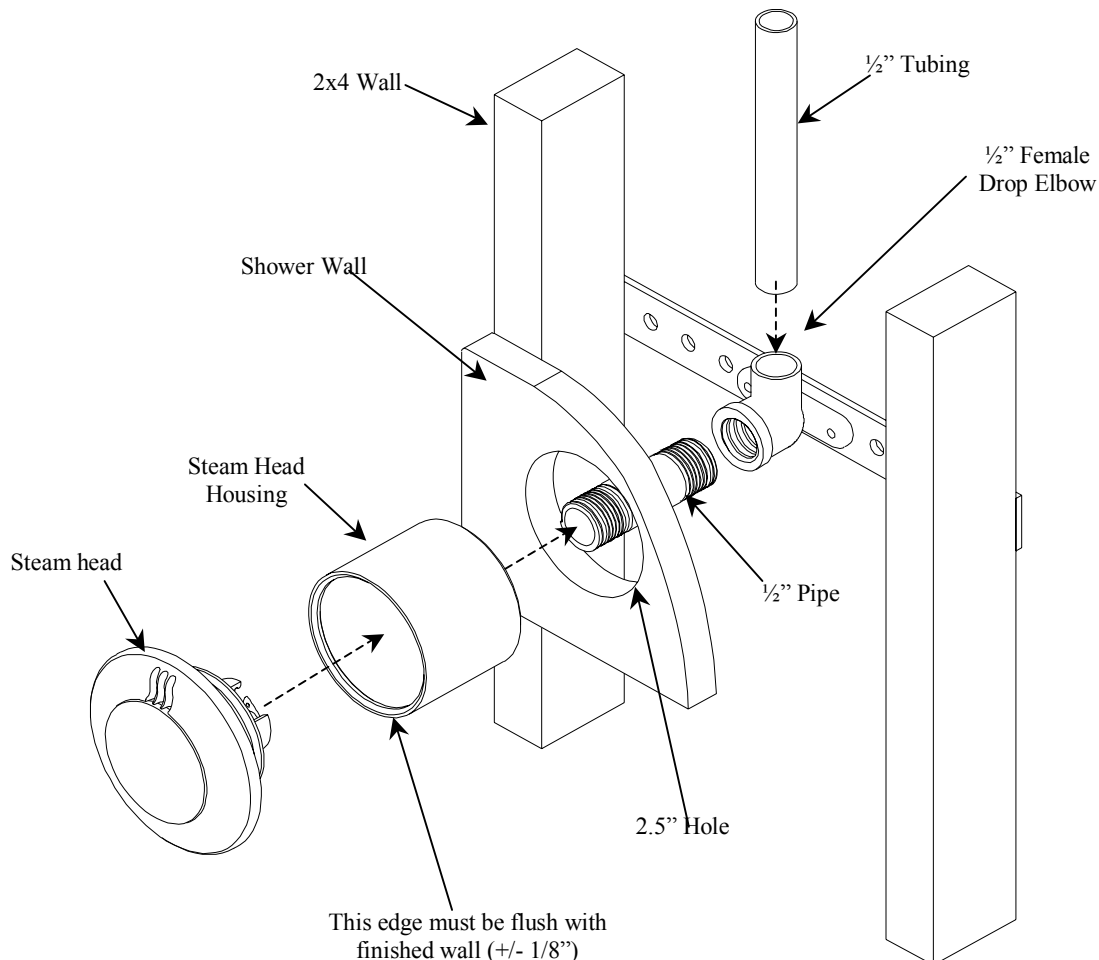

Figure 5
2. Connect a 1/2" NPT brass pipe or tubing to the steam outlet on the generator run the pipe to the 2.5" hole in wall to connect with the steam head housing, use figure 5 as a guide. **It is very important that the pipe is Firmly Secured to the wall, so that when the steam head is installed it doesn't push the housing back into the wall.** The steam line can run up, down, or horizontal; **but cannot run down and then up.** If it does, a steam trap may be produced at the low point blocking the flow of steam. Install a 1/2" drop elbow on the end of the 1/2" pipe or tubing for the steam head housing. For all the connections, use Teflon tape/solder and do not over tighten fittings. **DO NOT USE PVC CEMENT.**